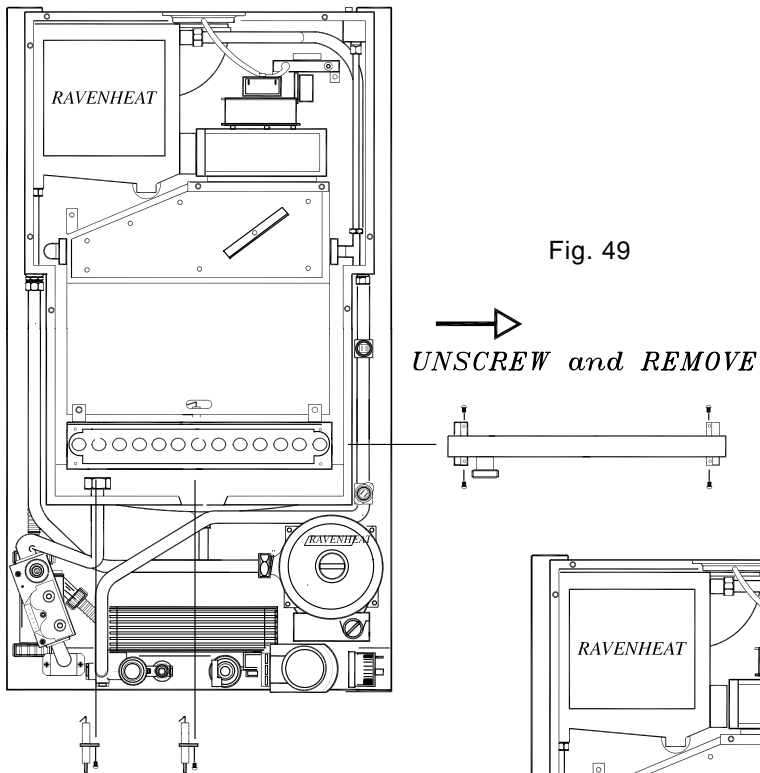

Fig. 49
## 7.10 TO REPLACE THE ELECTRODE (fig.49).
- 7.12.4 Pull the burner forward and remove (fig. 49).